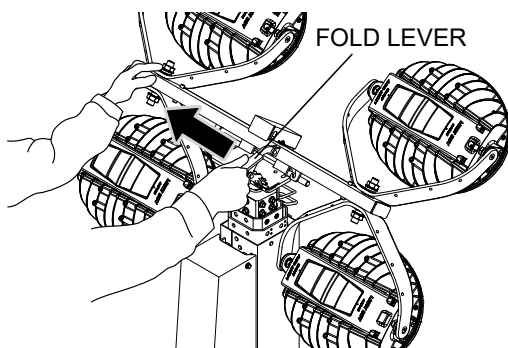

Figure 24. Releasing Fold Lever
2. Holding the light tower with one hand, pull up the fold lever (Figure 24).